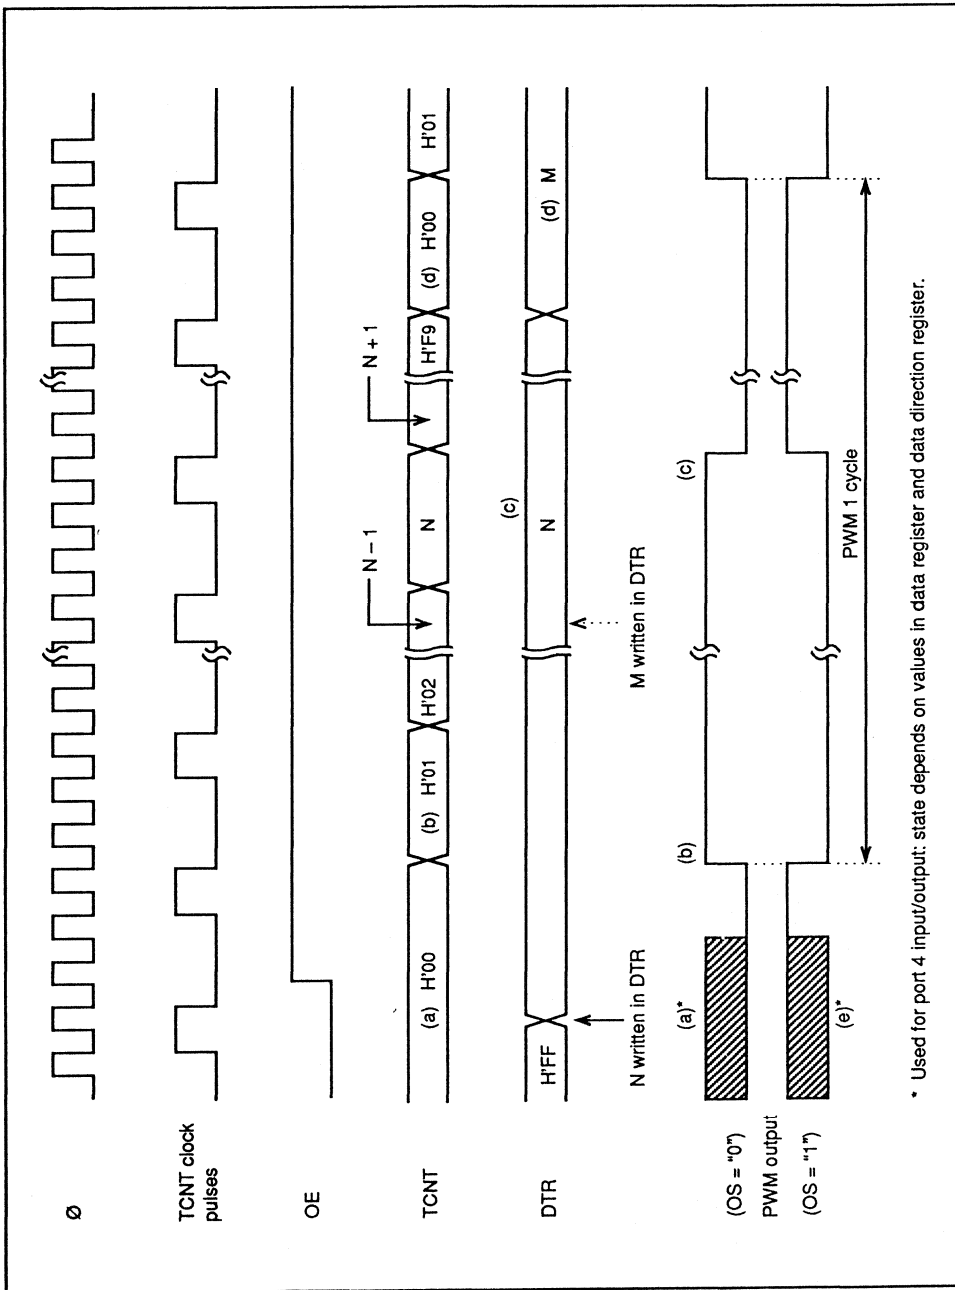

Figure 8-3. PWM Timing
Figure 8-3 is a timing chart of the PWM operation.
(1) Positive Logic (OS = “0”)
① **When (OE = “0”) – (a) in Figure 8-3:** The timer count is held at H’00 and PWM output is inhibited. (Pin 46 (for PW0) or pin 47 (for PW1) is used for port 4 input/output, and its state depends on the corresponding port 4 data register and data direction register.) Any value (such as N in Figure 8-3) written in the DTR becomes valid immediately.
② When (OE = “1”)
- i) The timer counter begins incrementing. The PWM output goes High when TCNT changes from H’00 to H’01, unless DTR = H’00. [(b) in Figure 8-3]
- ii) When the count passes the DTR value, the PWM output goes Low. [(c) in Figure 8-3]
- iii) If the DTR value is changed (by writing the data “M” in Figure 8-3), the new value becomes valid after the timer count changes from H’F9 to H’00. [(d) in Figure 8-3]
(2) **Negative Logic (OS = “1”) – (e) in Figure 8-3:** The operation is the same except that High and Low are reversed in the PWM output. [(e) in Figure 8-3]